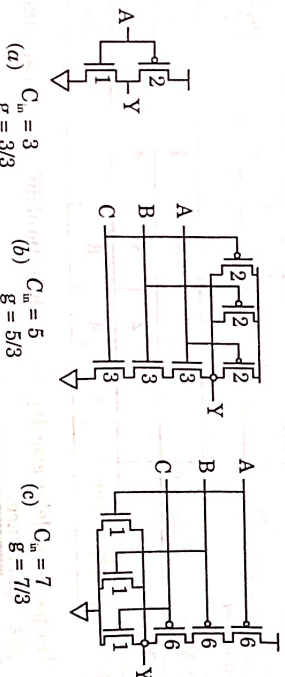

Fig. 2.14.1. Logical gates sized for unit resistance.
3. Fig. 2.14.1 shows inverter, 3-input NAND, and 3-input NOR gates with transistors widths chosen to achieve unit resistance assuming pMOS transistors have twice the resistance of nMOS transistors.
3. For example, consider the gates in Fig. 2.14.1; assuming each transistor on the output node has its own drain diffusion contact.